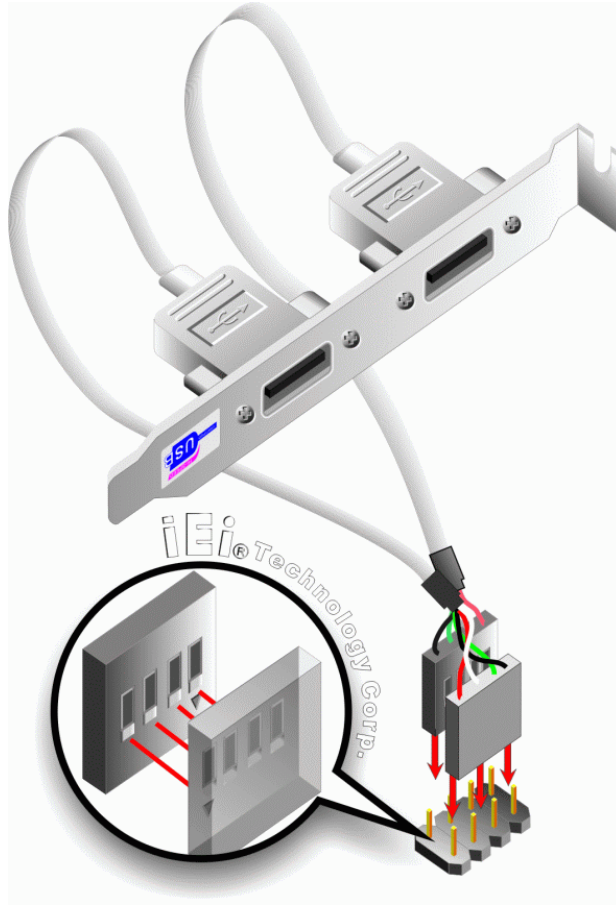

Figure 5-13: Dual USB Cable Connection
Step 7: Insert the cable connectors Once the cable connectors are properly aligned with the USB connectors on the IMBA-8650, connect the cable connectors to the onboard connectors. See **Figure 5-13**.